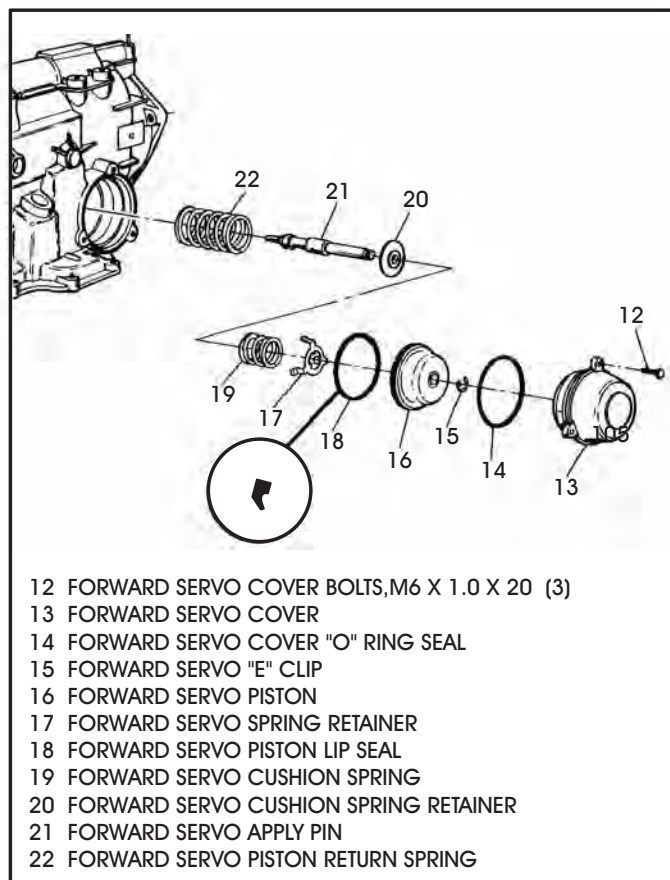

Figure 220
1. Assemble the forward servo parts exactly as shown in Figure 220.
2. Install new lip seal into groove in the forward servo piston, in direction shown in Figure 220, and lube with small amount of Trans-Jel®.
3. Install forward servo piston assembly into the forward servo cover (See Figure 220).
4. Install new "O" ring on forward servo cover, as shown in Figure 220.